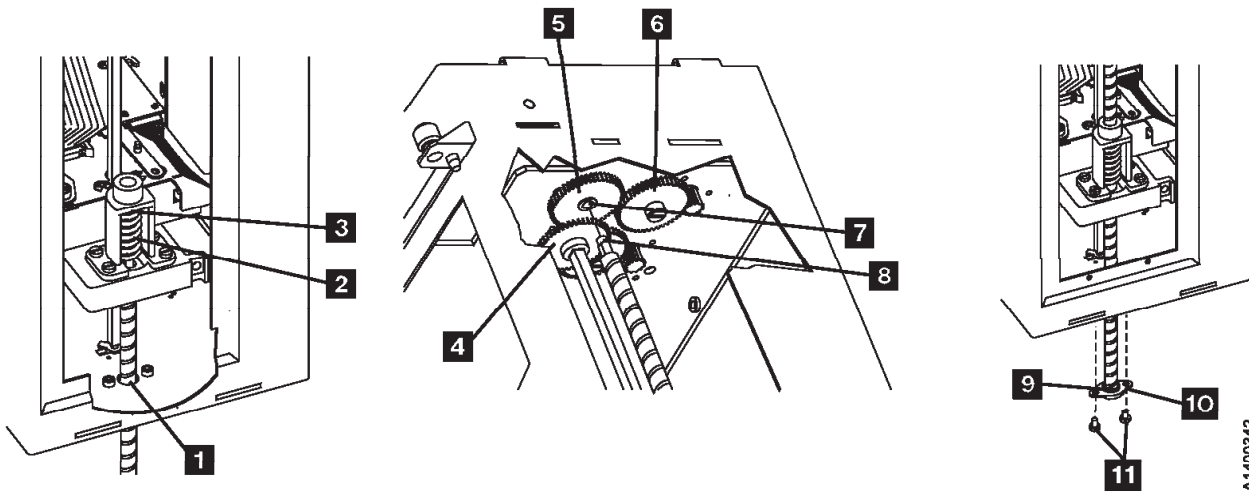
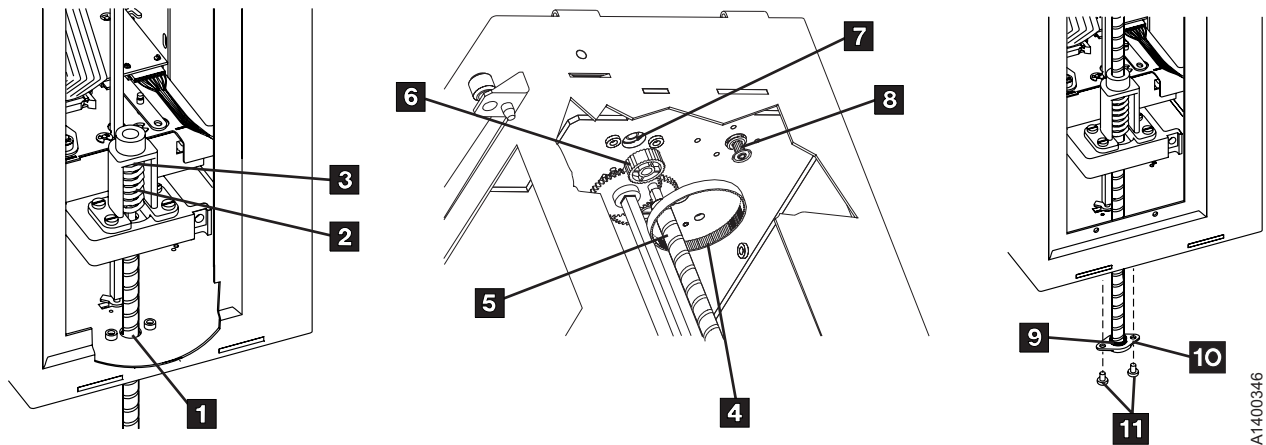

Figure 10-10. Gear-driven Leadscrew, Gears, and Bearing
Figure 10-11. Belt-driven Leadscrew, Gears, Belt, and Bearing
- See Figure 10-10 (gear-driven leadscrew) or, Figure 10-11 on page 10-19 (belt-driven leadscrew). The D-shaped end of the leadscrew must be up for this step. Insert the leadscrew up through the leadscrew bearing hole **1**.
- See Figure 10-10. Continue rotating the leadscrew counterclockwise until the top of the leadscrew **8** is just below the bottom of the feed shaft gear **4**, as shown.
10. See Figure 10-11. Install the belt **4** over the leadscrew **5**.